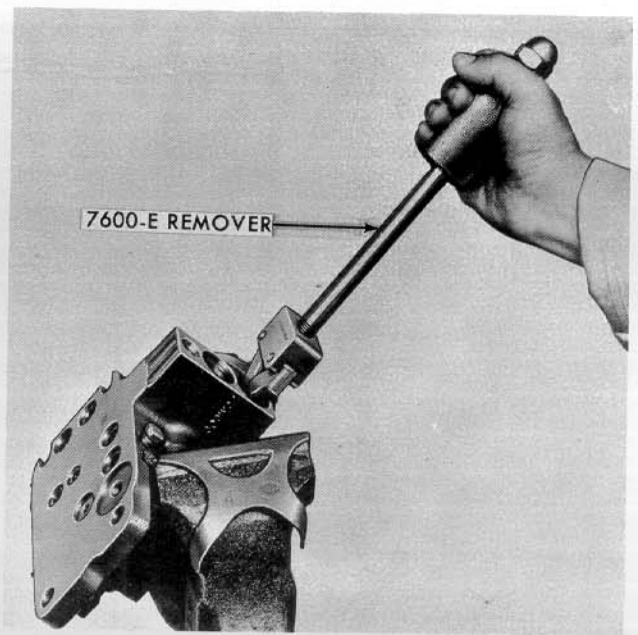

Figure 8
5. Withdraw the metal seal retainer(s) from the spool bore(s) with a 7600-E Remover, Figure 8. Remove and discard the front and rear valve-to-spool sealing "O" rings. Use a needle to remove the rear "O" ring(s).